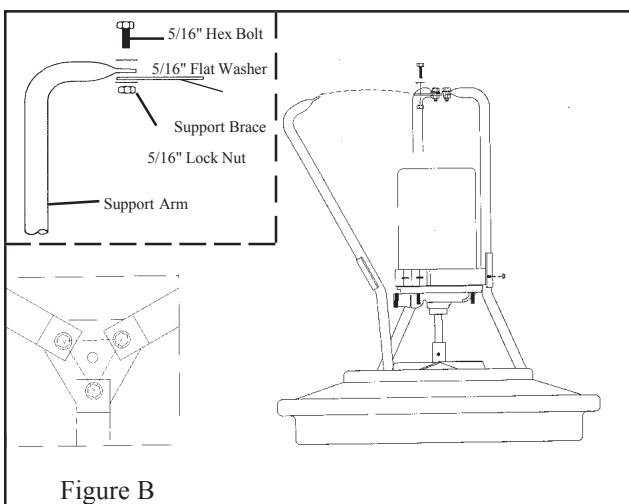

Figure 21
D. Installing remaining support arms - see Figure 21
2. Attach each of these arms to the mounting ring with (2) 1/4" flange nuts. Use the second set of holes down from the top of the support arm. torque the bolts to 10-12 ft-lbs.
3. Attach the bottom of the support arms to the support arm brace with (1) 5/16" lock nut, (1) 5/16" flat washer, and (1) 5/16" hex bolt for each of the three arms. Torque the bolts to 15-17 ft-lbs.